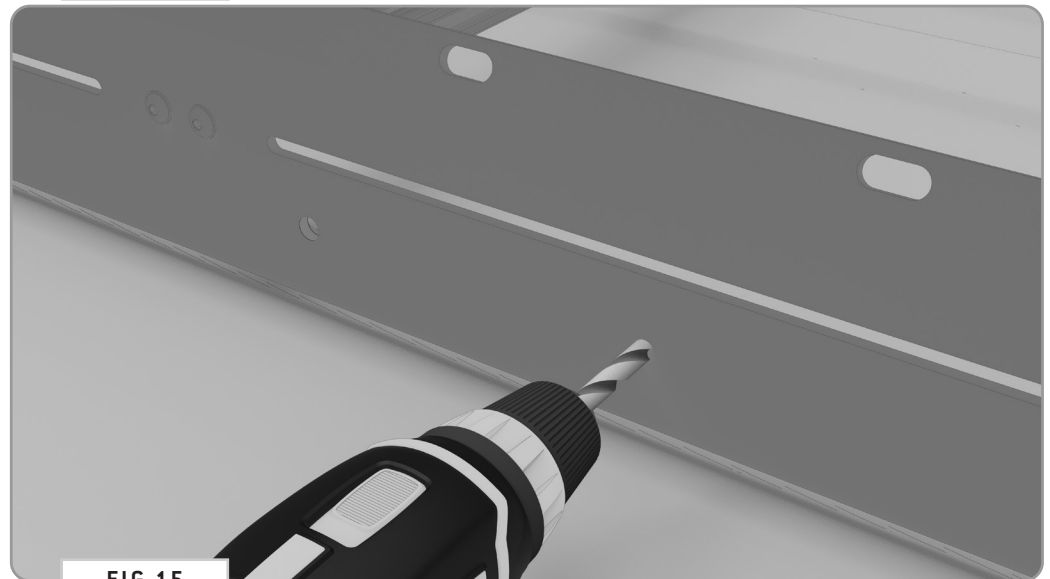

FIG 15
5.2 Drill Holes: Remove the **Surf Pole** from the **Hangar Bracket** and drill out the holes using a **25/64" Drill Bit** (**FIG 15**).